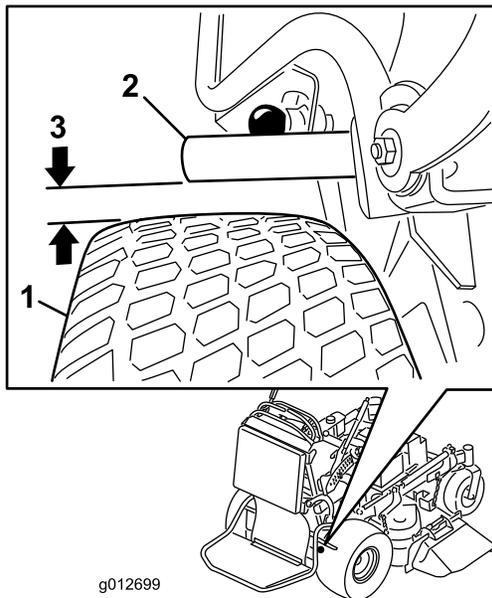

Figure 63
4. With the brake released, measure the distance between the brake bar and the tire. The distance needs be between 3/16 and 5/16 inches (5 and 8 mm) (Figure 63). Refer to Adjusting the Parking Brake when adjustment is needed.
5. Adjust the yoke. The distance between the brake bar and the tire needs be between 3/16 and 5/16 inches (5 and 8 mm). To tighten the brake, rotate the yoke up. To loosen the brake, rotate the yoke down (Figure 63).